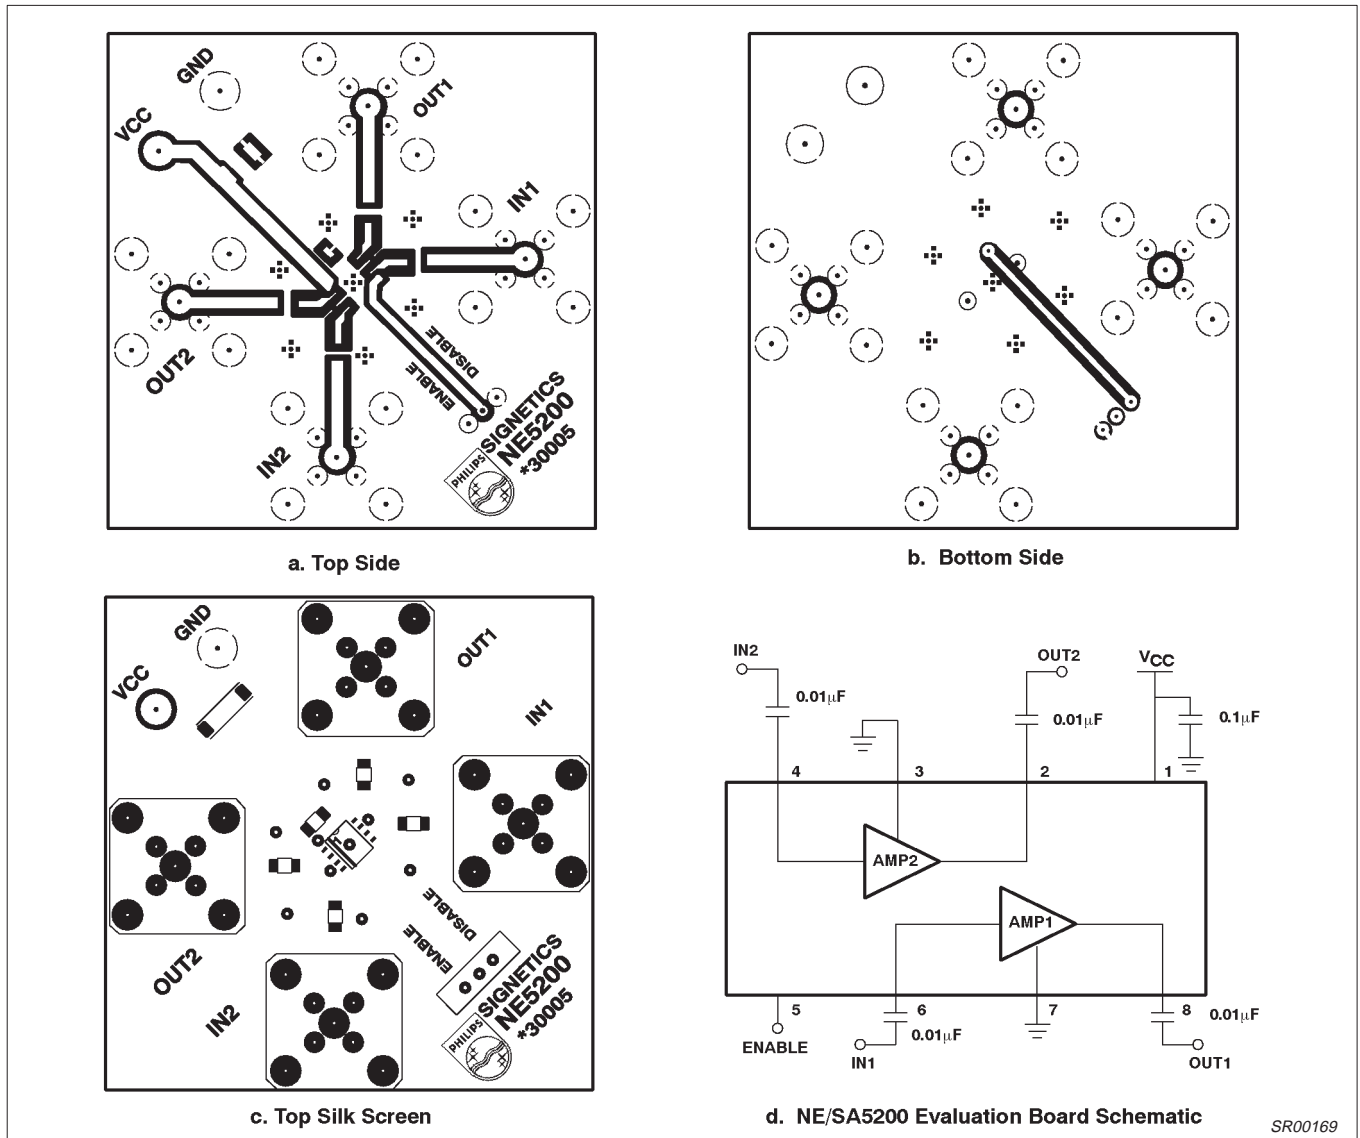

Figure 4. Printed Circuit Board Layout of the SA5200 Evaluation Board
- All measurements include the effects of the SA5200 Evaluation Board (see Figure 4). Measurement system impedance is 50Ω.